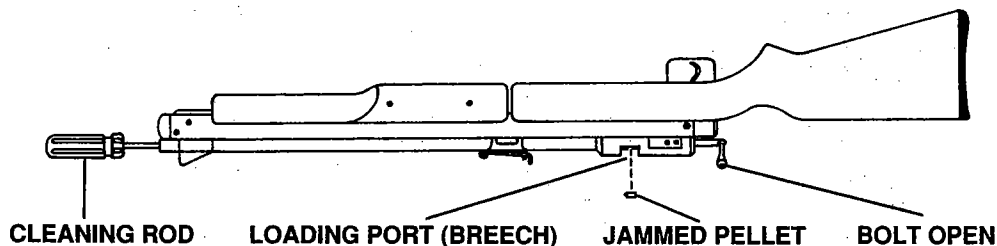

FIG. 8
- C. With the bolt in the open position, insert a cleaning rod (cleaning rods can be ordered from the factory) into the muzzle end of the barrel and gently push the jammed pellet into the pellet loading port (forward of the bolt). (Fig. 8) Don't try to reuse that pellet again.